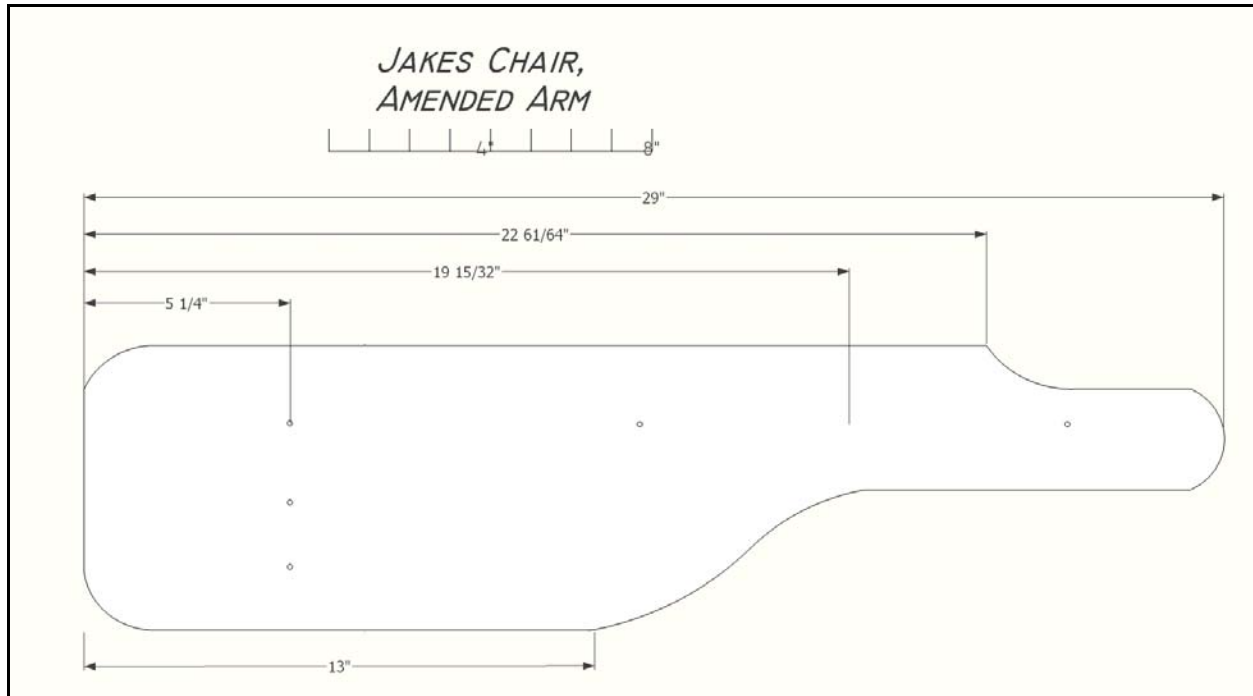

Figure 7. Scale Drawing of the Arm for Jakes Chair, Amended
- A. The seat frame is 7-7¼" wide, so it can be cut from a nominal 8" wide 5/4 board. The original dimensions of the seat frame (aka lounging leg) called for 8" actual width of ¾" thick stock. I think a 7" wide seat frame is plenty strong enough in 1" thick cypress (5/4" stock) if the stock is dense and sound. Or, you could buy a 5/4 x 10 for this part. You will also use 5/4 stock to make the front legs (See Fig 7, Layout).
- C. The chair arms (See Figure 7.) should be about 29" long (2" longer than in the original design shown in p2.bmp). Add the length to the wide part. If you want to make them shorter, you can move them back, leaving less overhang in front of the legs.
Wood - Based on the layout diagram (Figure 7) the amended Jakes chair plus a 27' wide footstool requires about 41 bf. Board "A" should be 5/4 (1" finished thickness). Board "B" can be 5/4 or 4/4 (3/4" finished) depending on the quality (density, strength, and surface) of the lumber. 4/4 softwood boards, especially cedar and cypress in my experience, often contain longitudinal cracks, which lower the yield of furniture parts. Careful selection is very important. Choose heavier, darker boards that are mainly heartwood. The chair requires 75%-80% of the total, the footstool 20-25%. The amount of lumber to buy depends on lumber yield/waste. I'd consider buying 20-50% over depending on the lumber grade.